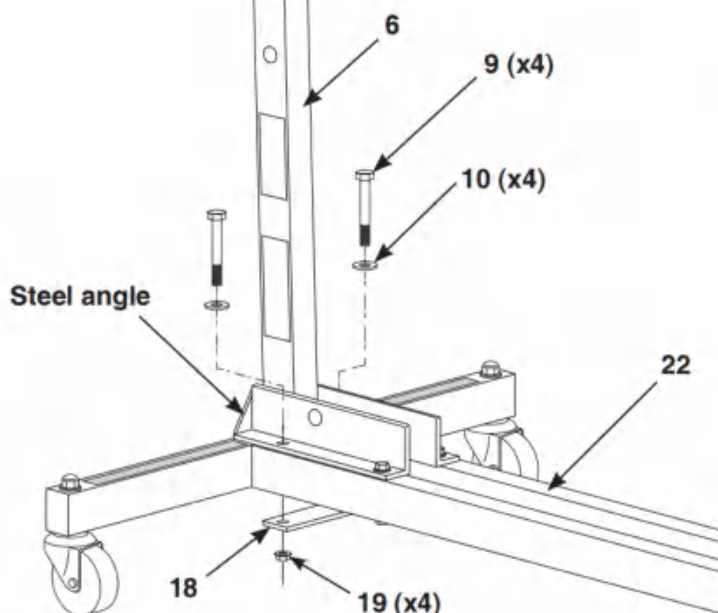

Figure 3
2. Mount mast (6) to the base (22) using four 4-1/2" cap screws (9) and four 7/16" washers (10) installed through steel angle of the mast. **See Figure 3.**
3. Install load plate (18) under the base using the two rear cap screws (9). (**Note:** In Figure 3, rear cap screws are raised showing center lines, and front cap screws are shown installed with nuts.) Secure mast to base with four 7/16-14 locking flange nuts (19). **See Figure 3.**